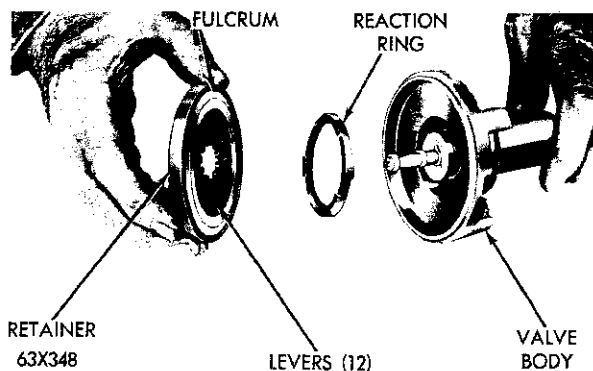
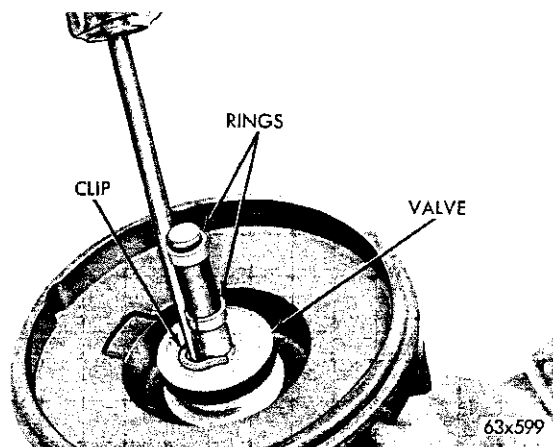
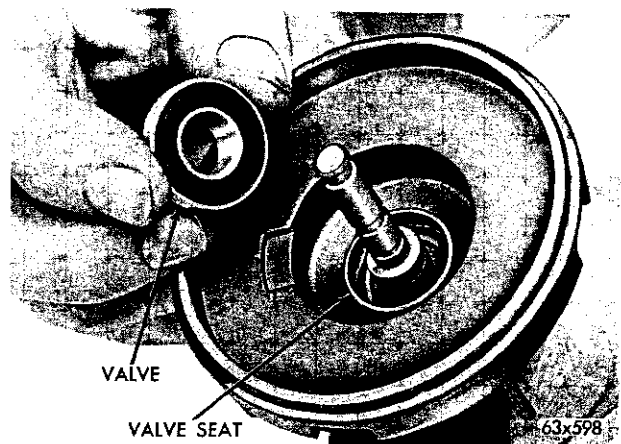

Fig. 29—Valve Body and Reaction Levers
Fig. 30—Removing Valve Retainer
Fig. 31—Removing or Installing the Valve
(13) Remove the reaction lever and retainer assembly from the valve body and remove the levers from the retainer (Fig. 29).
(14) Remove the two plastic rings from the plunger shaft.
(15) Remove the retaining clip (Fig. 30) from the plunger shaft and remove the load ring and valve (Fig. 31).
(16) Remove the plunger from the valve body.
(17) Remove the rear seal retainer from the plunger.